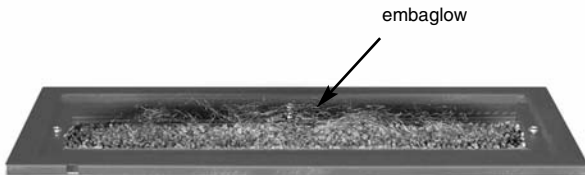

Fig. 15
2. Tease out the strands of embaglow and place onto the burner, ensuring they do not come into contact with the pilot (Fig. 15).